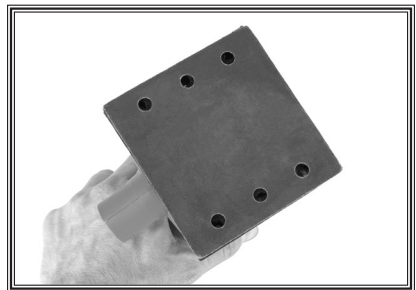

Figure 1. Sandpaper and base holes aligned.
3. Place the sandpaper over the base and align the holes in the paper with holes in the base (Figure 1).